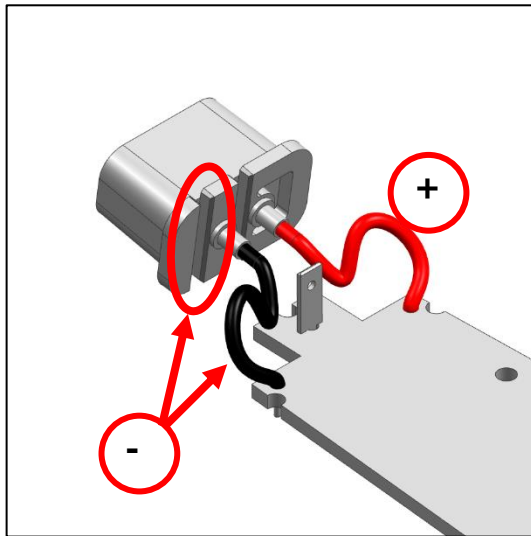

Fig. 42
b) Solder the rear wires of the circuit board to the motor (Fig. 42).
Danger: Ensure that the plug socket polarity is correct (Fig. 42)!